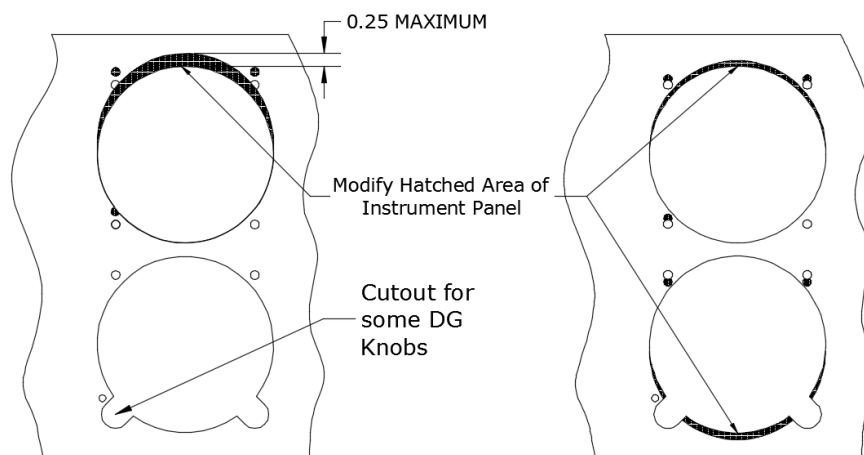
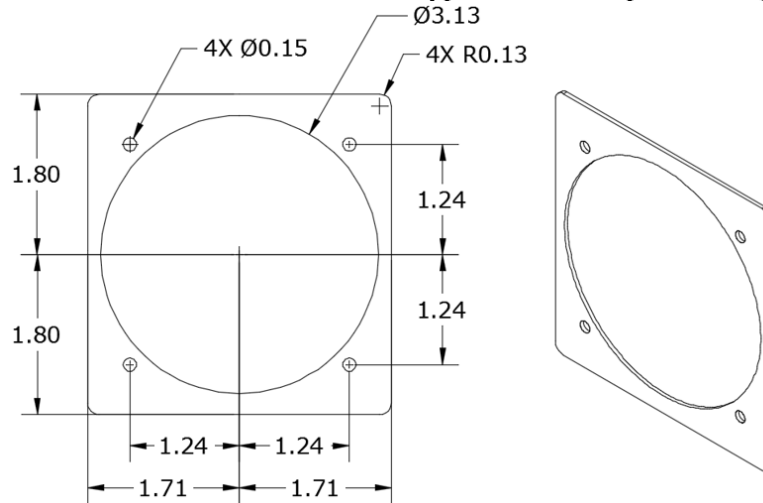
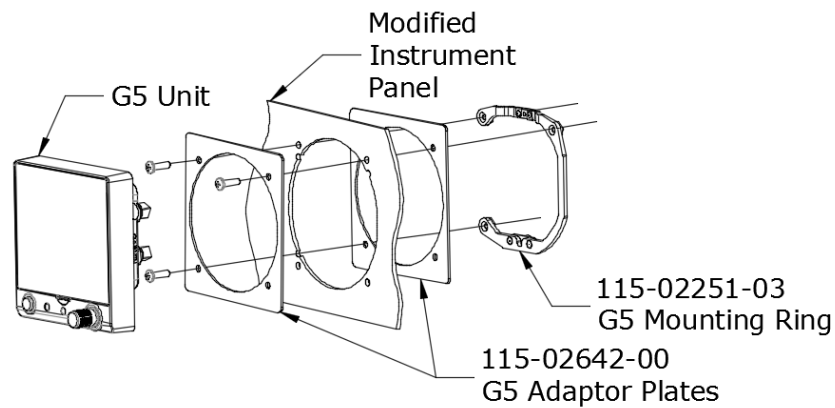

Figure 4-10 Instrument Panel Modification
Figure 4-11 G5 Adapter Plate
Figure 4-12 G5 Adapter Plate Assembly
- Two Adapter Plates must be used if installing the G5 in an instrument hole with any cutout for instruments knobs. See Figure 4-10 and Figure 4-12 for more information.
The G5 Adapter Plate, (115-02642-00) is shown in Figure 4-11. Each installation of a G5 in a DG/HSI will include 2 adapter plates. Two G5 adapter plates must be installed as shown in Figure 4-12 when
The G5 adapter plate is fabricated from 0.050 thick 2024-T3 aluminum per the dimensions shown in Figure 4-11. Apply a finish coat of paint to adaptor plates as desired prior to final installation. These may be field fabricated if needed and must have some type of corrosion protection (primer, alodine, etc.).